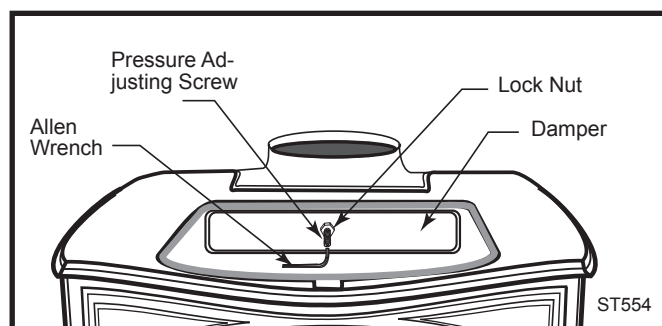

Fig. 40 Adjust the damper with the Allen wrench.
1. Remove the griddle. Loosen the lock nut at the center of the damper. (Fig. 40)